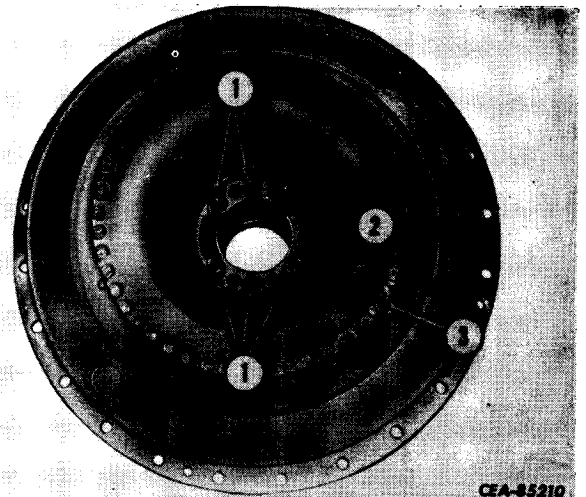

Figure 3-12
Remove the 12 point cap screws (1, Fig. 3-12) and clamp plates (2) that secure the guide wheel (3) to the guide wheel carrier.